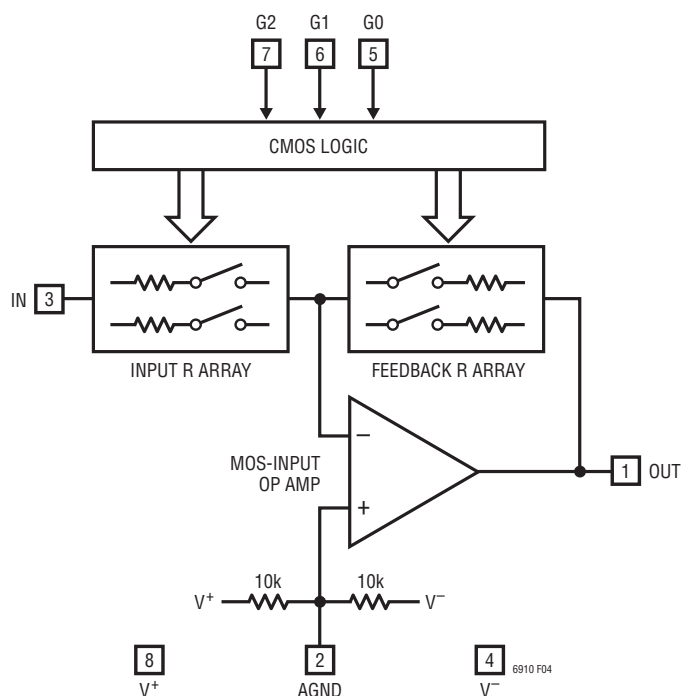
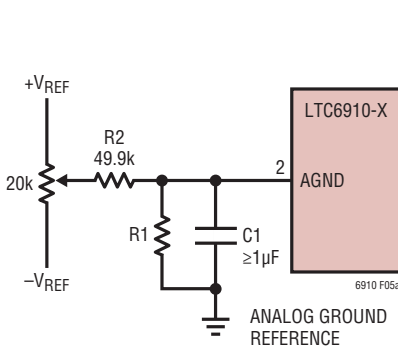

Figure 4. Block Diagram
Figure 5a. Offset Nulling
**AGND (Pin 2):** Analog Ground. The AGND pin is at the midpoint of an internal resistive voltage divider, developing a potential halfway between the  $V^+$  and  $V^-$  pins, with an equivalent series resistance to the pin of nominally 5k $\Omega$  (Figure 4). AGND is also the noninverting input of the internal op amp, which makes it the ground reference voltage for the IN and OUT pins. Because of this, very “clean” grounding is important, including an analog ground plane surrounding the package.
**IN (Pin 3):** Analog Input. The input signal to the amplifier in the LTC6910-X is the voltage difference between the IN and AGND pins. The IN pin connects internally to a digitally controlled resistance whose other end is a current summing point at the same potential as the AGND pin (Figure 4). At unity gain (digital input 001), the value of this input resistance is approximately 10k $\Omega$  and the IN voltage range is rail-to-rail ( $V^+$  to  $V^-$ ). At gain settings above unity (digital input 010 or higher), the input resistance falls. Also, the linear input voltage range falls in inverse proportion to gain. (The higher gains are designed to boost lower level signals with good noise performance.) Tables 1, 2, and 3 summarize this behavior. In the “zero” gain state (digital input 000), analog switches disconnect the IN pin internally and this pin presents a very high
The LTC6910 family are small outline, wideband inverting DC amplifiers whose voltage gain is digitally programmable. Each delivers a choice of eight voltage gains, controlled by the 3-bit digital inputs to the G pins, which accept CMOS logic levels. The gain code is always monotonic; an increase in the 3-bit binary number (G2 G1 G0) causes an increase in the gain. Table 1, Table 2 and Table 3 list the nominal voltage gains for LTC6910-1, LTC6910-2 and LTC6910-3 respectively. Gain control within each amplifier occurs by switching resistors from a matched array in or out of a closed-loop op amp circuit using MOS analog switches (Figure 4). Bandwidth depends on gain setting. Curves in the Typical Performance Characteristics section show measured frequency responses.
Settling time in the CMOS gain-control logic is typically several nanoseconds and faster than the analog signal path. When amplifier gain changes, the limiting timing is analog, not digital, because the effects of digital input changes are observed only through the analog output (Figure 4). The LTC6910-X’s logic is static (not latched) and therefore lacks bus timing requirements. However, as with any programmable-gain amplifier, each gain change causes an output transient as the amplifier’s output
The electrical tables list DC offset (error) voltage at the inputs of the internal op-amp in Figure 4,  $V_{OS(OA)}$ , which is the source of DC offsets in the LTC6910-X. The tables also show the resulting, gain dependent offset voltage referred to the IN pin,  $V_{OS(IN)}$ . These two measures are related through the feedback/input resistor ratio, which equals the nominal gain-magnitude setting, G:
Offset voltages at any gain setting can be inferred from this relationship. For example, an internal offset  $V_{OS(OA)}$  of 1mV will appear referred to the IN pin as 2mV at a gain setting G of 1, or 1.5mV at a gain setting of 2. At high gains,  $V_{OS(IN)}$  approaches  $V_{OS(OA)}$ . (Offset voltage can be of either polarity; it is a statistical parameter centered on zero.) The MOS input circuitry of the internal op amp in Figure 4 draws negligible input currents (unlike some op amps), so only  $V_{OS(OA)}$  and G affect the overall amplifier’s offset.
Because internal op amp offset voltage  $V_{OS(OA)}$  is gain independent as noted above, offset trimming can be readily added at the AGND pin, which drives the noninverting input of the internal op amp. Such a trim shifts the AGND voltage slightly from the system's analog ground reference, where AGND would otherwise connect directly. This is convenient when a low resistance analog ground potential or analog ground reference exists, for the return of a voltage divider as in Figure 5a. When adjusted for zero DC output voltage when the LTC6910-X has zero DC input voltage, this DC nulling will hold at other gain settings also.
Figure 5a shows the basic arrangement for dual-supply applications. A voltage divider (R1 and R2) scales external reference voltages  $+V_{REF}$  and  $-V_{REF}$  to a range equaling or slightly exceeding the approximately  $\pm 10\text{mV}$  op amp offset-voltage range. Resistor R1 is chosen to drop the  $\pm 10\text{mV}$  maximum trim voltage when the potentiometer is set to either end. Thus if  $V_{REF}$  is 5V, R1 should be about  $100\Omega$ . Note also that the two internal 10k resistors in Figure 4 tend to bias AGND toward the mid-point of  $V^+$  and  $V^-$ . The external voltage divider will swamp this effect if R1 is much less than  $5\text{k}\Omega$ . When considering the effect of the internal 10k resistors, note that they form a Thévenin equivalent of  $5\text{k}$  in series with an open-circuit voltage at the halfway potential  $(V^+ + V^-)/2$ . (Although
With this trim technique in place, the remaining DC offset sources are drifts with temperature (typically  $6\mu\text{V}/^\circ\text{C}$  referred to  $V_{OS(OA)}$ ), shifts in the LTC6910-X's supply voltage divided by the PSRR factors, supply voltage shifts coupling through the two 10k internal resistors of Figure 4, and of course any shifts in the reference voltages that supply  $+V_{REF}$  and  $-V_{REF}$  in Figure 5a.